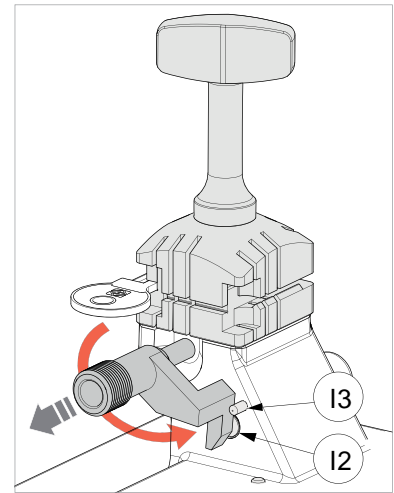

Fig. 33
NOTE: take the gauge back by hand to its original position before starting to read or cut the key (Fig. 33).
For all reading/decoding and cutting operations the gauge (I) must be taken back manually to its original position (Fig. 33 - in this position it covers the sensor (I2) which detects it).